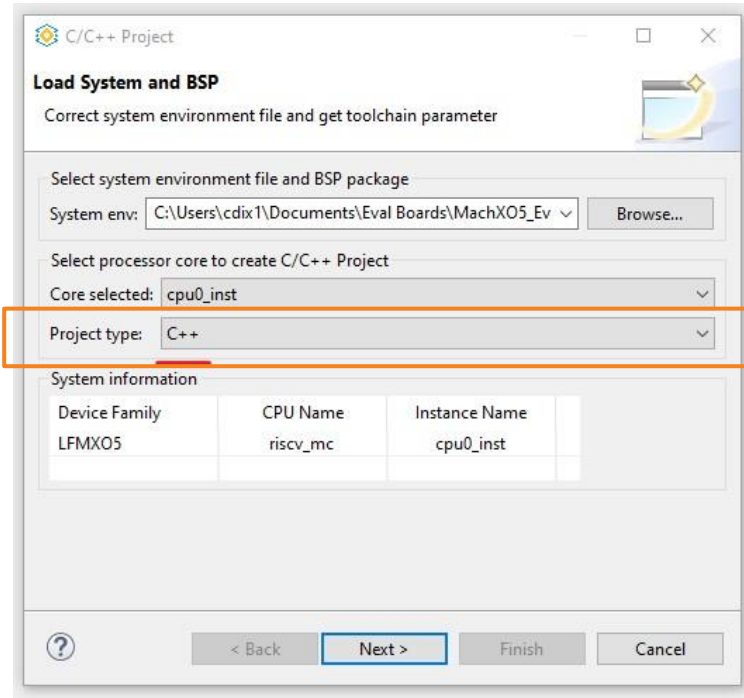
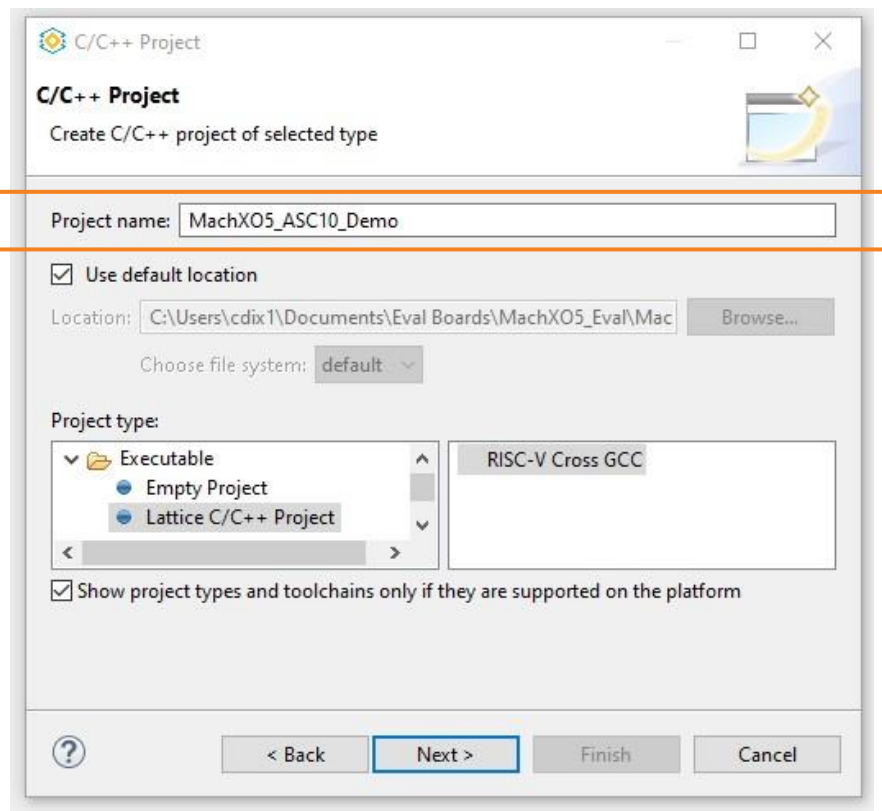

Figure 3.41. Propel SDK – New Project C++
Figure 3.42. Propel SDK – New Project Name
2. Select the **Project type** as “C++” as shown in Figure 3.41, and then provide a project name as shown in Figure 3.42.